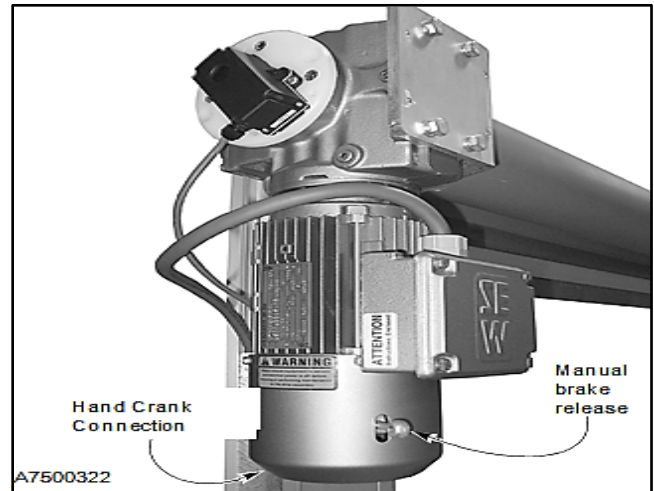

Figure 22
- a. Partially pull down and hold the manual brake release to disengage the brake. Allow the door to close smoothly to the desired height. (See Figure 22.)